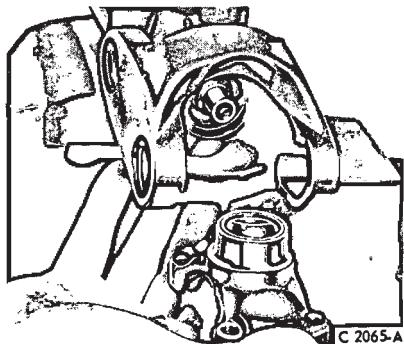

FIG. 7—Removing Center Socket Yoke
10. Pull the centering socket yoke off the center stud (Fig. 7). Remove the rubber seal from the centering ball stud.